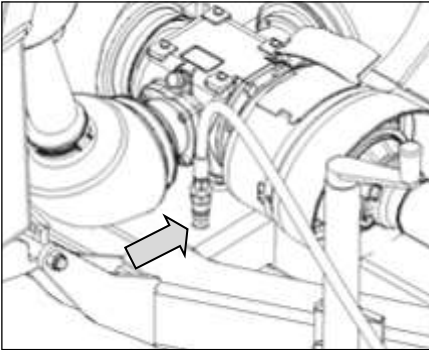

Fig. 28
6. Disconnect the hydraulic hose. Store the coupling on the end of the hose in the hole in the gearbox plate (Fig. 28).